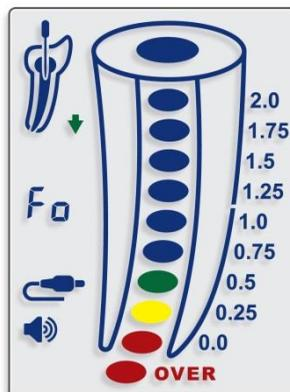

Fig. 11
- ⚠** The red OVER indication accompanied by frequent beeps indicates that the file tip have progressed beyond the foramen into the periapical region - 'Foramen over-instrumentation' (Fig. 11).